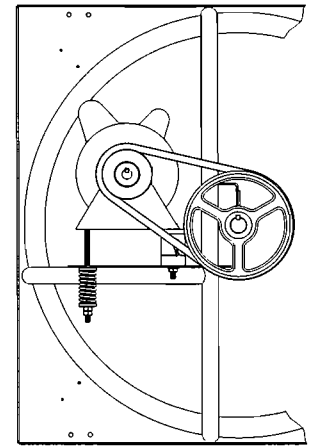

FIGURE 2
6. Install the 5/16" x 6" bolt, cup washers, spring and nut as shown in Figure 2.
8. Adjust the location of the belt tightener bottom so that the motor is in a horizontal position as shown in Figure 2.